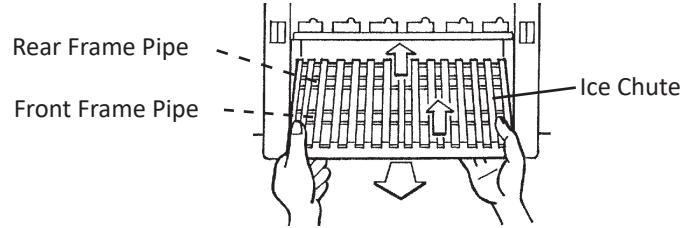

Fig. 43
- 6) Lift off the ice chute from the front frame pipe and then from the rear frame pipe. See Fig. 43.